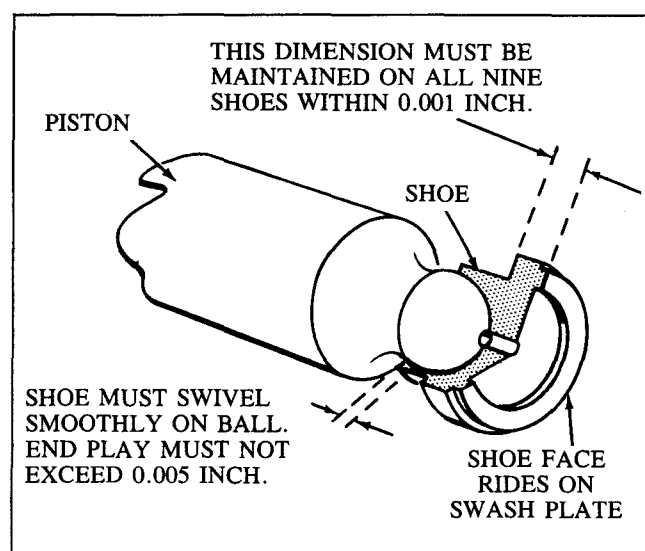

Figure 13. Piston S/A (62) Tolerances
1. Inspect cylinder block face (56) for wear, scratches, and/or erosion. If cylinder block condition is questionable, replace the entire rotating group.
2. Check each cylinder block bore for excessive wear. Use the piston and shoe S/A (62) for this purpose. The pistons should be a very close fit and slide in and out of cylinder block bores. **NO BINDING CAN BE TOLERATED.** If binding occurs, clean the cylinder block and pistons. Lubricate the cylinder block bores with clean fluid and try again. Even minor contamination of the fluid may cause a piston to freeze up in a cylinder bore.
3. Inspect each of the nine piston and shoe subassemblies (62) for a maximum end play of 0.005 inch between the piston and shoe. Also check the face dimension of each shoe. The face dimension must be within 0.001 inch. See Figure 13.